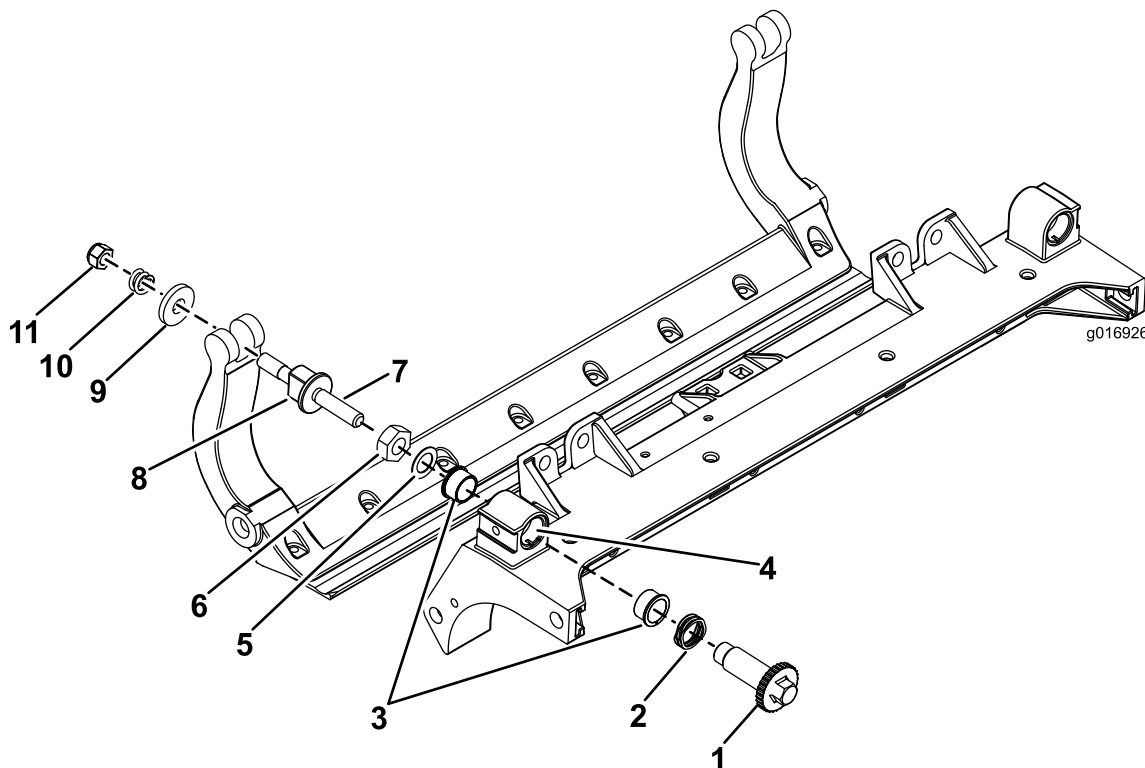

Figure 31
1. Remove all parts (refer to *Installation Instructions* for HD DPA Kit Model No. 120–7230 and to Figure 31).
2. Apply Never Seize to the inside of the bushing area on cutting unit center frame (Figure 31).
3. Align the keys on flange bushings to the slots in the frame and install the bushings (Figure 31).
4. Install a wave washer onto the adjuster shaft and slide the adjuster shaft into the flange bushings in the cutting unit frame (Figure 31).
5. Secure the adjuster shaft with a flat washer and lock nut (Figure 31). Torque the lock nut to 20 to 27 N-m (15 to 20 ft-lb).
11. Place a steel washer outside each of the nylon washers (Figure 31).
Note: Washers on inside may have a gap (Figure 31).
13. Tighten the nut on each bedbar adjuster assembly until the compression spring is fully compressed, then loosen the nut 1/2 turn (Figure 31).